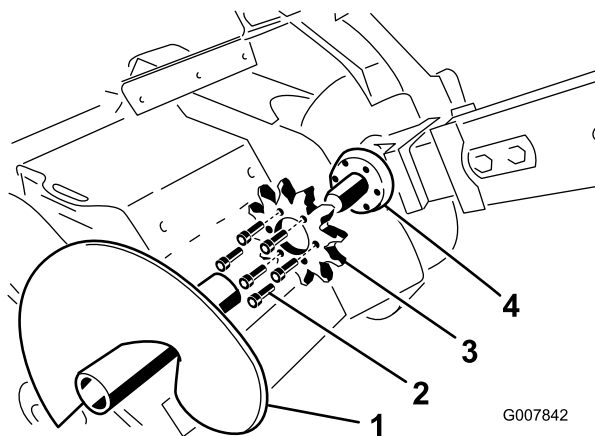

Figure 69
4. Remove the spoils auger (Figure 69).
9. Remove the 6 bolts securing the drive sprocket (Figure 69).
10. Remove and discard the drive sprocket (Figure 69).
11. Clean the sprocket mounting surface on the trencher (Figure 69).
12. Slide the new sprocket onto the shaft (Figure 69).
13. Thread the 6 bolts into the sprocket finger tight (Figure 69).